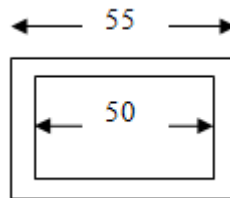

Fig.3
- 12 a) Discuss the Maxwell reciprocal theorem. (2)
- b) A shaft of square section as shown in Fig. 3 below is subjected to a twisting moment such that the maximum shear stress is limited to  $250\text{GN/mm}^2$ . Obtain the torque and angular twist, if shaft is 1.6m long (Take  $G = 70000\text{N/mm}^2$ ). (8)